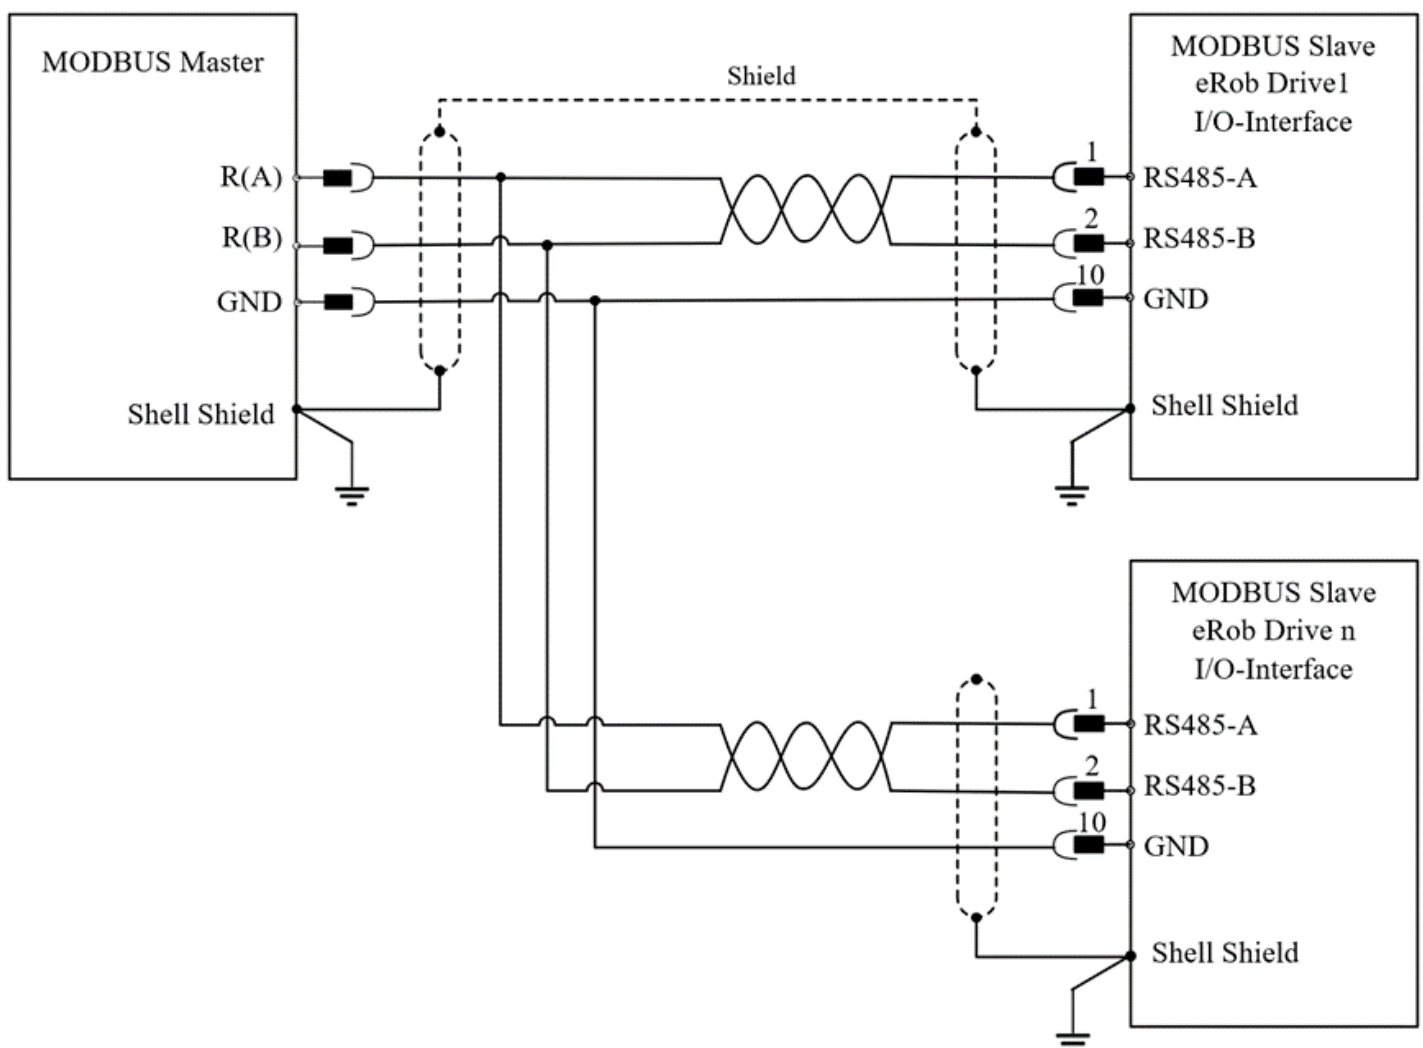

Figure 6-10 Modbus-RTU communication wiring diagram
6.4 Modbus-RTU Communication Wiring Diagram(as shown in Figure 6-10)
The Modbus-RTU communication interface is the RS485 communication interface of the I/O terminal of the eRob rotary actuator. The MODBUS master system and the MODBUS slave system can create a multi-point connection bus network. The wiring diagram is shown in Figure 6-10. For details on the use of the Modbus-RTU communication protocol, please refer to the *eRob Modbus-RTU User Manual*.